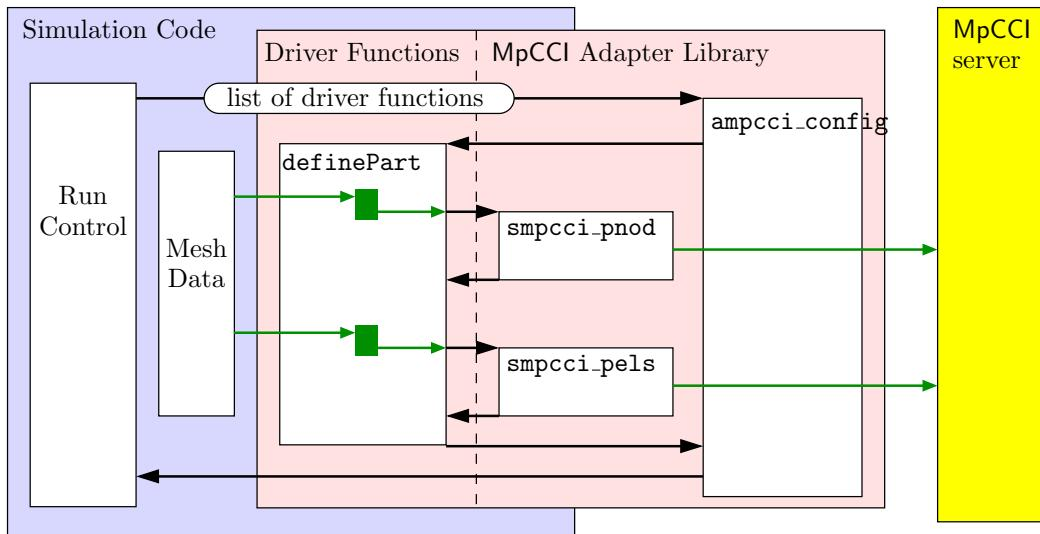

Figure 21: Call of ampcci_config: MpCCI_Driver_definePart is hooked
- * Call `MpCCI_Driver_definePart` if defined (see Figure 21), otherwise